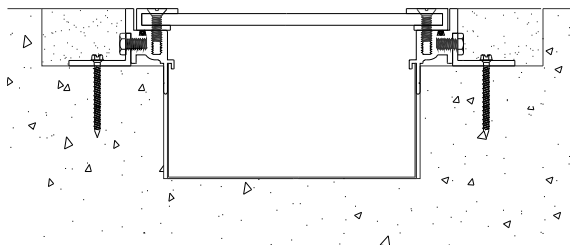

Figure 8
STEP 11. Place the cover plate back into its installed position on the frame. Attach the cover plate to the frame using the cover plate bolts, see Figure 8.